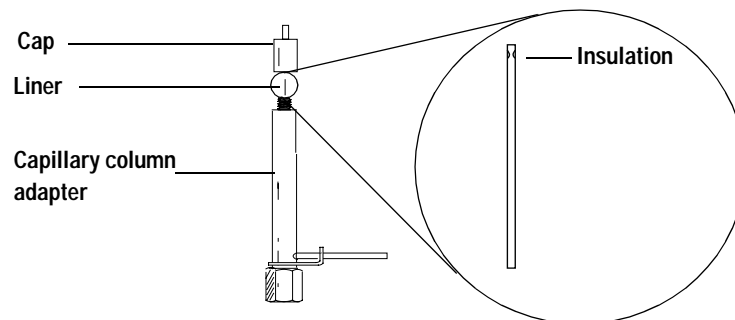

Figure 4 The  $\mu$ ECD adapter
- 2 Check the liner. Replace it if it is broken and reinstall the cap. The indentation must be at the cap end of the adapter (See Figure 4).